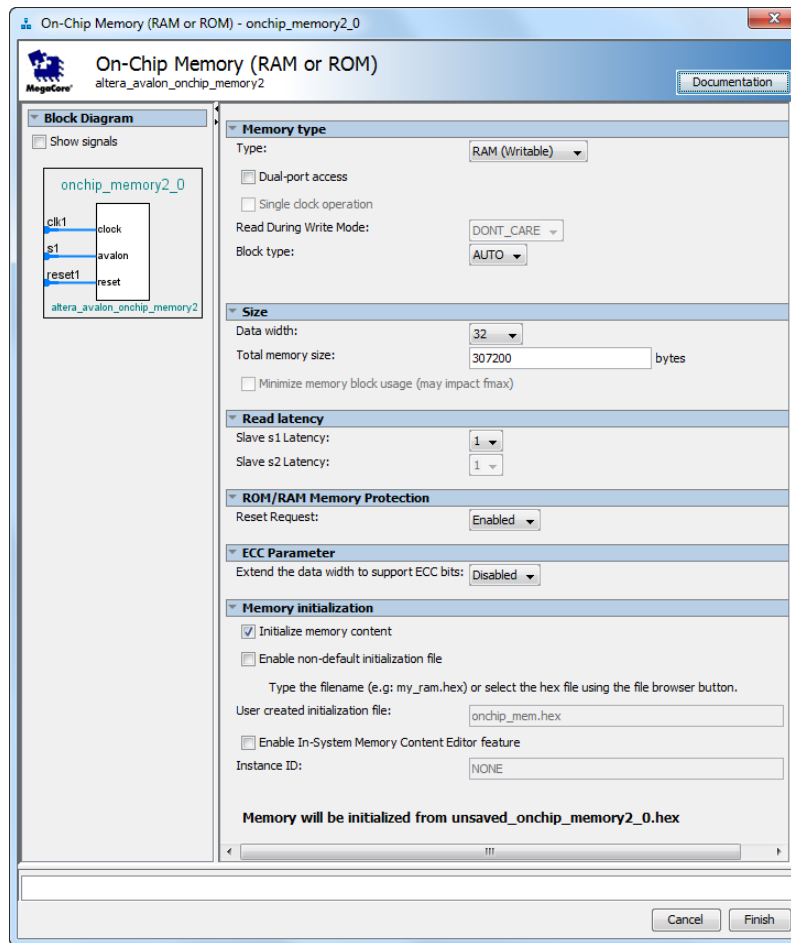

Figure 5. Settings for the on-chip memory.
- Set the **Total Memory Size** to 307200 bytes (300 KBytes), as shown in Figure 5.